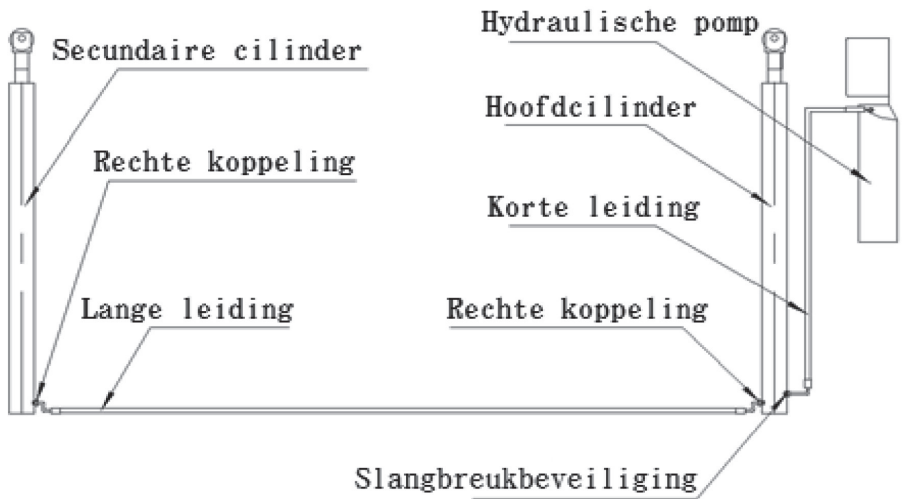
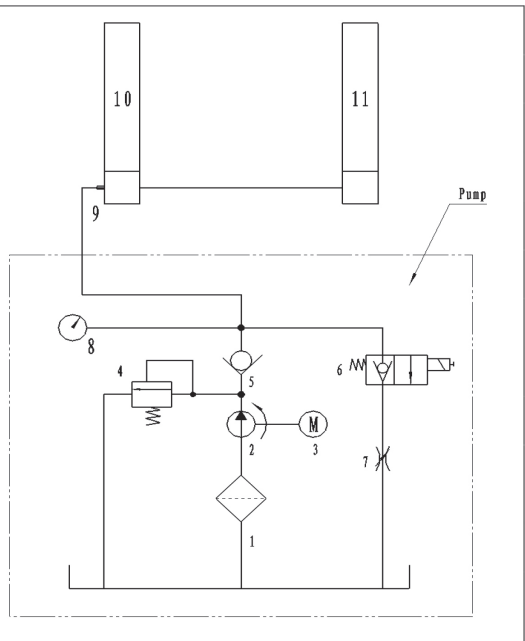

Fig. 17
Fig. 18
3. See FIG. 17 and FIG. 18 for schematic diagram of the hydraulic system.